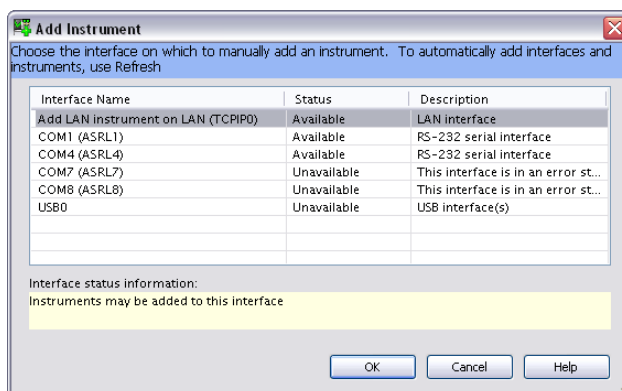

Figure 1-11 Add Instrument window
- 2 On the Agilent Connection Expert window, click on  **Add Instrument**. An Add Instrument window will be prompted out. Select **Add LAN instrument on LAN (TCPIP0)** interface and click **OK** (see Figure 1-11).